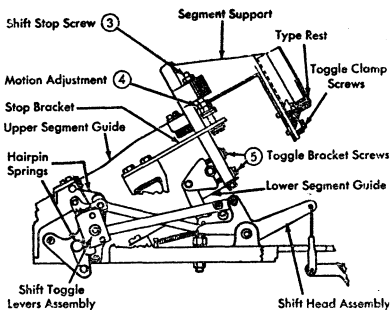

Figure 11. Shift Mechanism
This process rotates the plate of the shift toggle lever assembly in the opposite direction, to move the segment support back up into the lower case position. Again the same two hairpin springs complete and hold the motion of the segment support. The segment support is guided by four flat springs called segment guides. These guides permit free vertical motion and prevent horizontal motion. Shift stop brackets limit the motion of the segment support (Figure 11).
SEGMENT GUIDE REMOVAL may be accomplished by first removing both mounting screws. Never remove more than one segment guide at a time. When the guides are replaced, they should be permitted to lie in position while the screws are tightened so that the normal position of the segment support will not be disturbed (Figure 11).
STOP BRACKET REMOVAL requires removing the front screws and the shift stop screw. The rear screws need only be loosened, since the rear ends of the stop brackets are open (Figure 11).
SHIFT TOGGLE LEVERS ASSEMBLY REMOVAL may be effected by first removing the power frame. Then remove the shift T-head assembly (Figure 11) and the shift toggle levers assembly.
3. EVEN TOP AND BOTTOM. The shift stop screws should be adjusted so that, when a strike-up is made, the type impressions will appear even on the top and bottom for the majority of the characters (Figure 11). The shift stop screws should be resting evenly on both the left and right-hand stop brackets. This adjustment can be gaged by inserting a small piece of paper between the fibre washer and the stop bracket. When the test strip is removed a drag will be felt. This drag should be the same for both sides. When checking for even top and bottom, the lower case characters should be used for the aluminum segment support and the upper case characters for the steel segment support.
4. MOTION. Adjust the locking nuts on the shift stop screws of the aluminum segment support so that the upper case characters will print on the same line as the lower case (Figure 11). On the steel segment support, adjust the locking nuts on the shift stop screws so that the lower case characters will print on the same line as the upper case. Check the stop washers to be sure they rest evenly on both the right and left-hand stop brackets.
To check the lower pin clearance, move the basket to the upper case position, release the key lever and again see how much movement the cam has. Equal cam movement in both positions indicates equal pin clearance. If there is more upper pin clearance, loosen the two bottom shift toggle screws slightly and tighten the upper screws an equal amount (Figure 11).